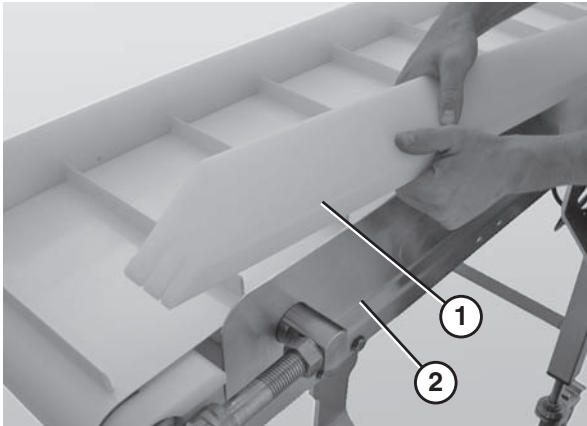

Figure 46
2. Remove the guide (Figure 46, item 1) from the conveyor (Figure 46, item 2).